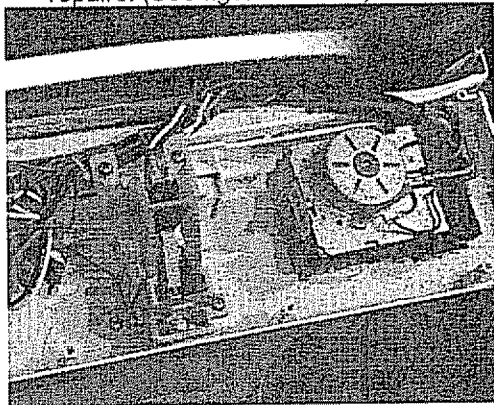

Figure 3
4. Take down the damaged timer and install a new timer, reverse procedures to complete repairs. (See figure 3 and 4.)